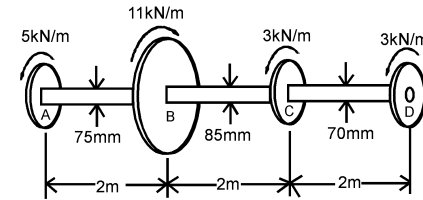

Fig. 7
- (b) Determine the maximum shear stress in the shaft subjected to the external torques as shown in Fig. 7. (5+7=12)